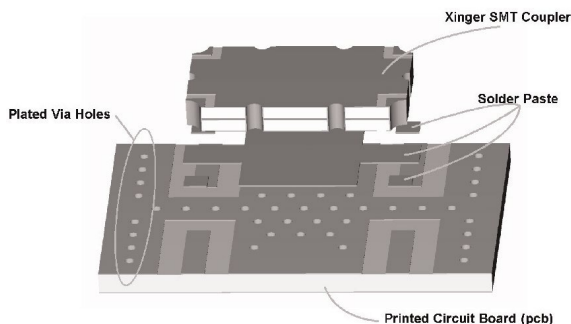

**Figure 2: Solder Paste Application**
**Solder Paste:** All conventional solder paste formulations will work well with Anaren’s Xinger surface mount components. Solder paste can be applied with stencils or syringe dispensers. An example of a stenciled solder paste deposit is shown in Figure 2. As shown in the figure solder paste is applied to the four RF pads and the entire ground plane underneath the body of the part.